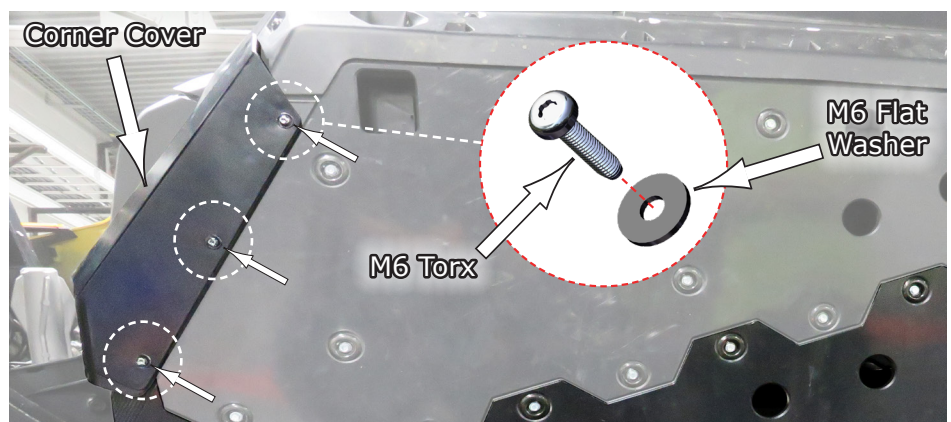

Fig.4a
4. Once the plate is up under the Corner Cover and Side Skirting, you can now bolt the **Corner Cover** back down using the **M6x25 Torx Screws** and **M6 Flat Washers** as shown in **Fig.4a-b**. Same for opposite side.